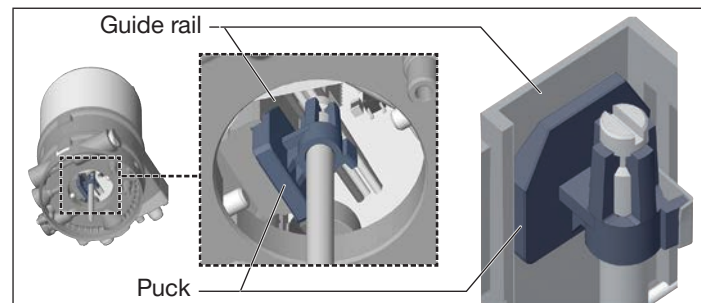

Fig. 10: Aligning the puck
- Place Type 8692/8693 onto the actuator. In doing so, align the puck of the actuator with the guide rail of Type 8692/8693 (see "Fig. 10").